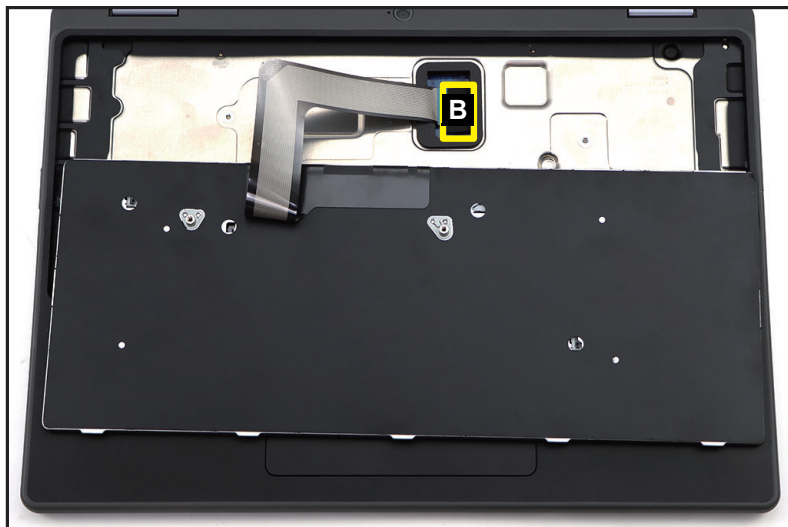

Figure 1-11. Keyboard Removal
- Detach the tape (B) securing the keyboard FPC (Figure 1-11).